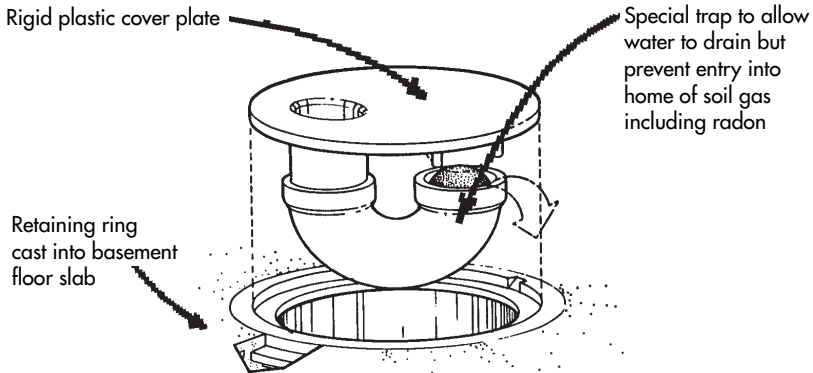

Figure 18: Trap for new floor drains
- Install special traps in floor drains that allow water to drain but prevent radon from entering the basement (see figure 18). These traps have the added benefit of keeping out moulds, odours, insects and cold drafts. However, they are not a substitute for a sewer back-up valve.